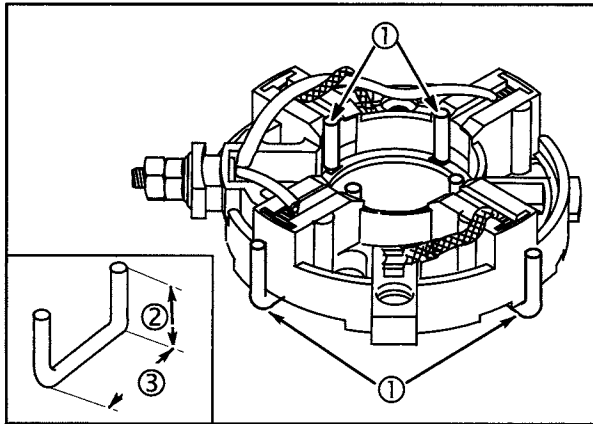

Fig. 22
End caps with radial compression type springs require 4 brush retainers (1) to hold brushes clear of armature commutator, Fig. 22.
Brush retainers can be made from Part #26634 control wire or similar material. The retainer is U shaped, with two legs  $\frac{1}{2}$ " (13 mm) high (2),  $\frac{3}{4}$ " (19 mm) long (3), Fig. 22, inset.